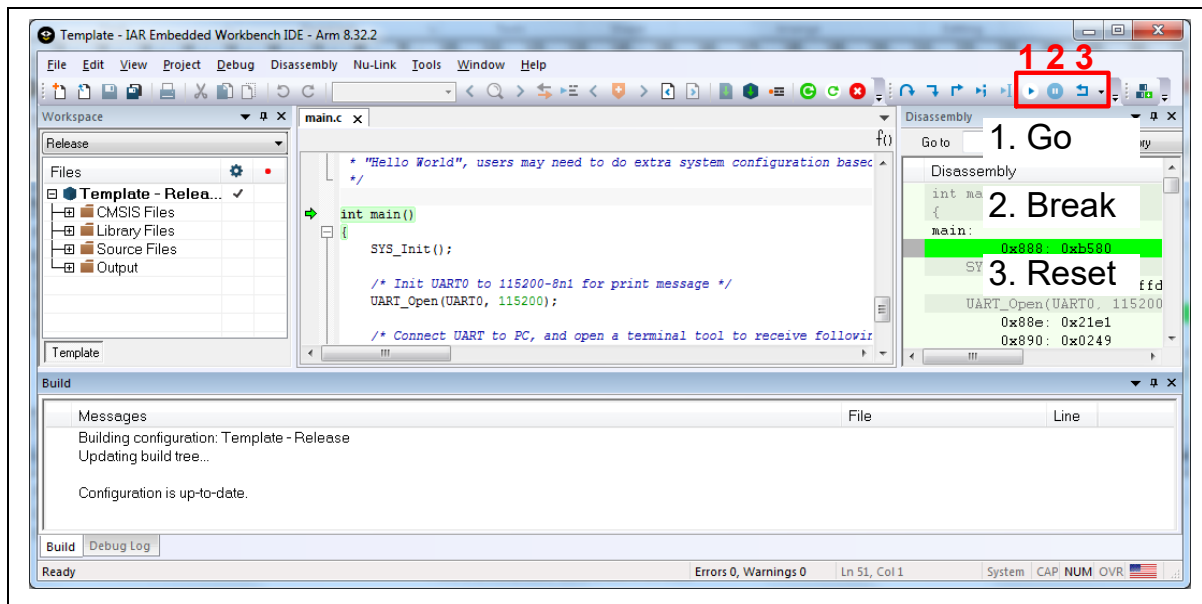
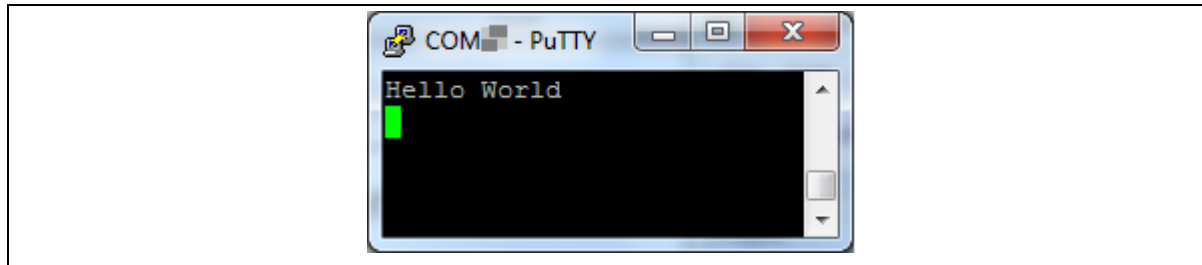

Figure 4-17 IAR EWARM Debug Mode
Figure 4-18 Debug Message on Serial Port Terminal Windows
4. Figure 4-17 shows the debug mode under IAR EWARN. Click “Go” and the debug message will be printed out as shown in Figure 4-18. User can debug the project under debug mode by checking source code, assembly language, peripherals’ registers, and setting breakpoint, step run, value monitor, etc.